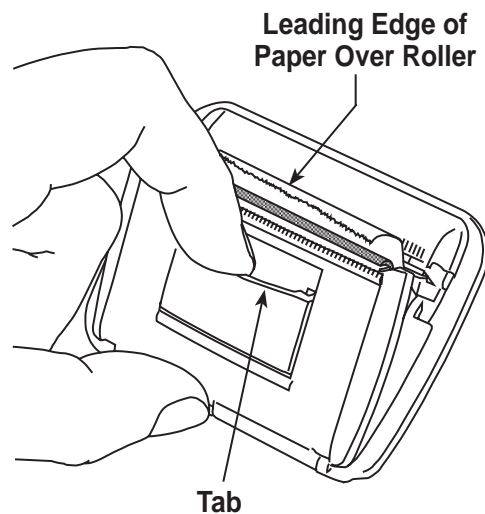

Figure 22
1. Remove the cover on the printer by pulling out on the tab as shown in Figure 22.